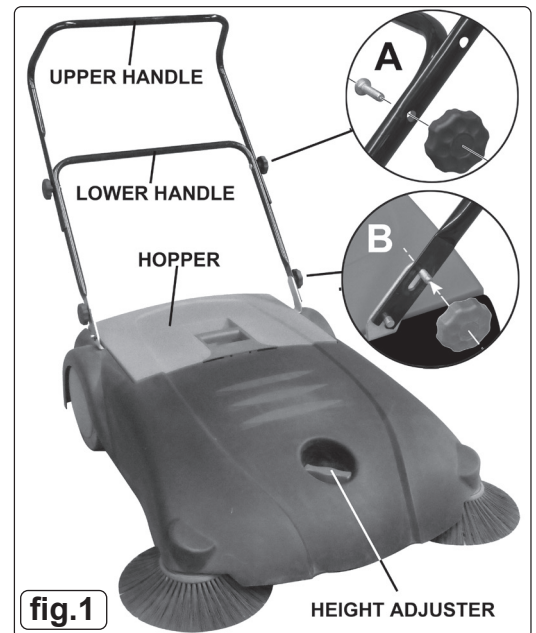

fig.1
- 4.5. Use:** Ensure the handle height is correctly adjusted for the convenience of the operative. Make sure that the handle fixings are tight and the dirt collection hopper is properly seated within the main body of the sweeper. Work methodically up and down the area to be swept, ensuring that each 'pass' overlaps the previous one. To ensure the efficiency of the brushes, push the sweeper at a good, even pace. To capture larger pieces of debris the basic clearance of the sweeper can be raised a further 20mm by rotating the height adjuster seen in fig.1 clockwise. Check the hopper regularly by lifting it out. Empty it if required. Place it back into the sweeper as shown in fig.2. Periodically, clean the exterior of the sweeper with a damp cloth.